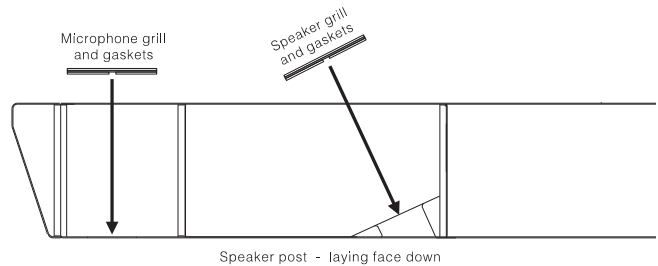
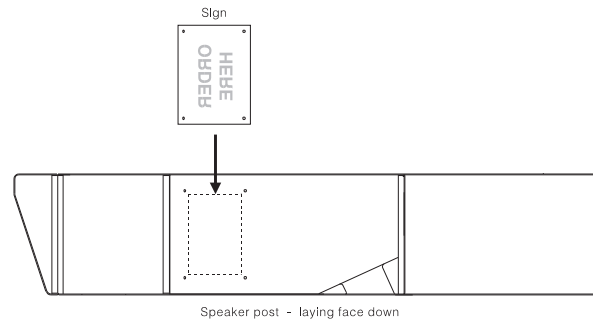

Figure 4.
Figure 9.
2. Follow these instructions to install the speaker and microphone grills (K18593) as shown in Figure 4, and in step 6 to install the ORDER HERE sign as shown in Figure 9.